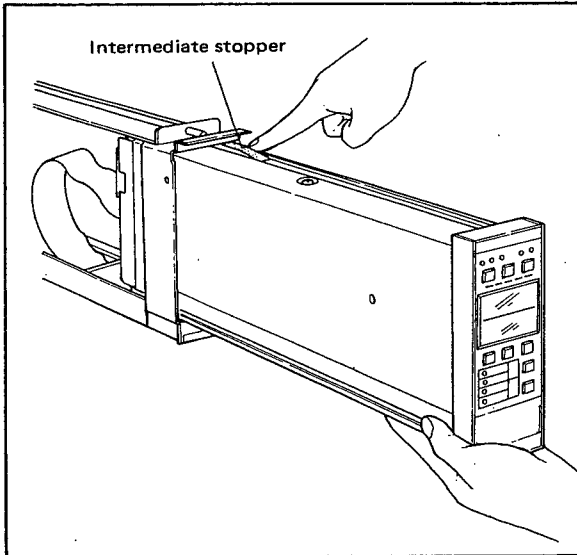

Figure 5-3-2. Removing Instrument Module.
- ② To remove the instrument module from the housing, push down on the intermediate stopper while pulling the instrument out of the housing as shown in Figure 5-3-2.